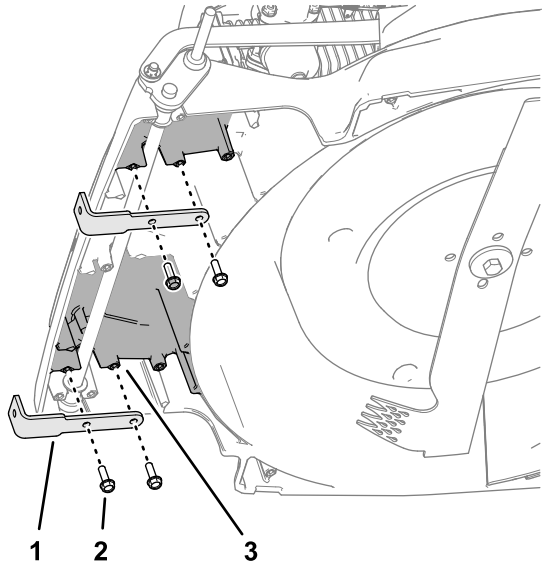

Figure 8
1. Align the holes in the lower brush bracket with the holes in the groomer brush support of the mower deck as shown in Figure 8.
2. Secure the lower brush bracket to the groomer brush support (Figure 8) with 2 self-tapping, flange-head screws (6 x 20 mm).